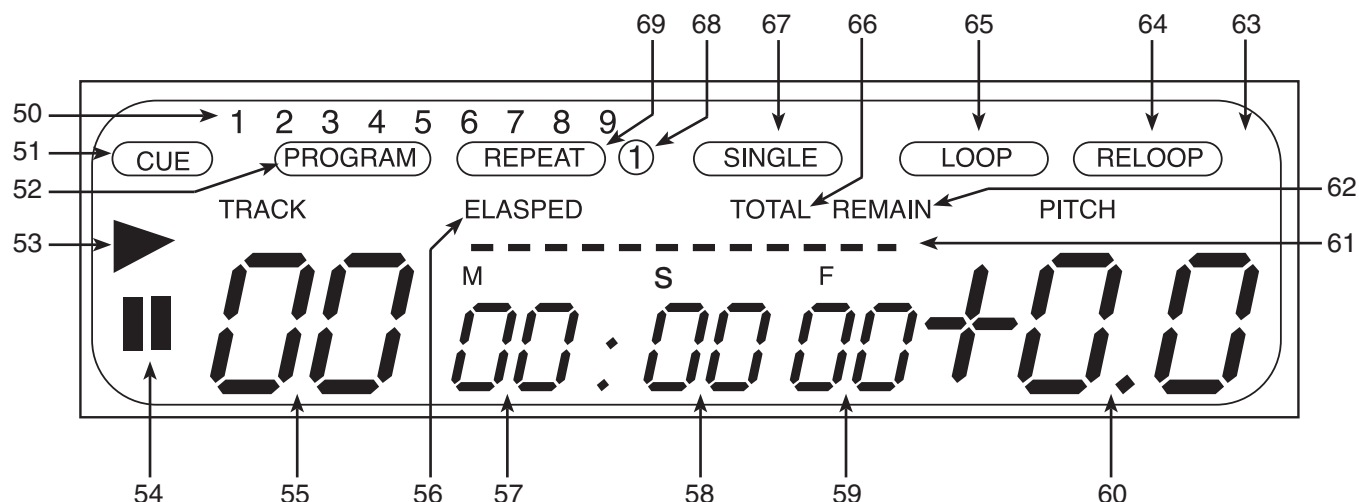

Figure 6
C. LCD DISPLAY (FIGURE 6)
59) When the *ELAPSE* indicator is displayed in the *LCD* (14), the time defined will refer to a single track's elapsed time. The time mode is changed by the tapping on the *TIME BUTTON* (5).